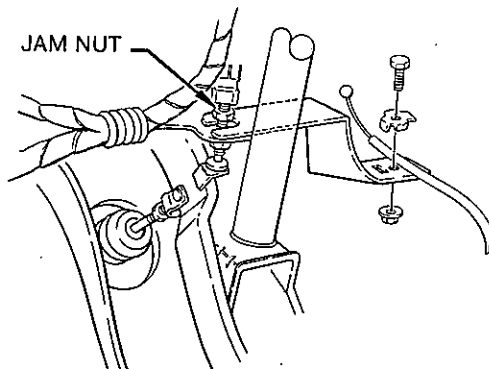

Figure 20
26. Loosen vehicle brake switch jam nut and slide servo cable clamp bracket into place as shown in **FIGURE 20**.